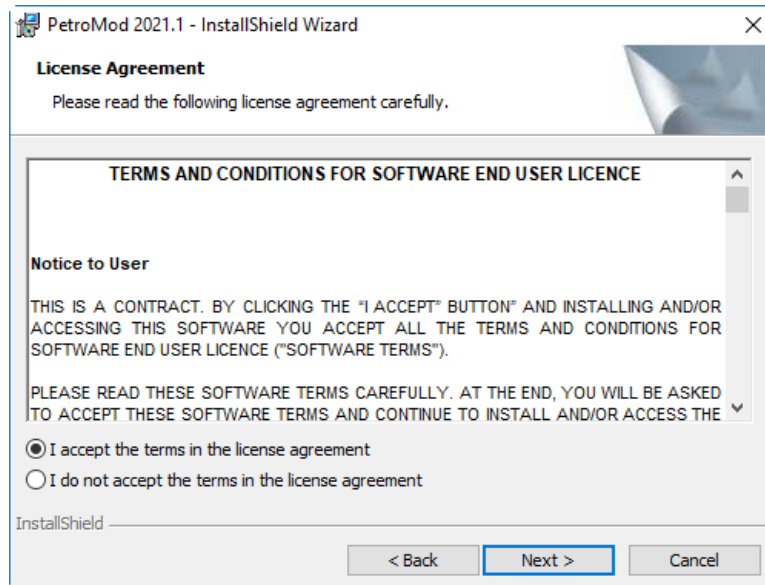

Fig. 3-1 PetroMod InstallShield Wizard
- 2 Double-click **PetroMod2021.1.exe** to start the installation. The folder PetroMod2021.1.msi will be unpacked, then the **InstallShield Wizard** will open with the **License Agreement** (Fig. 3-1). Accept the terms and click **Next**.